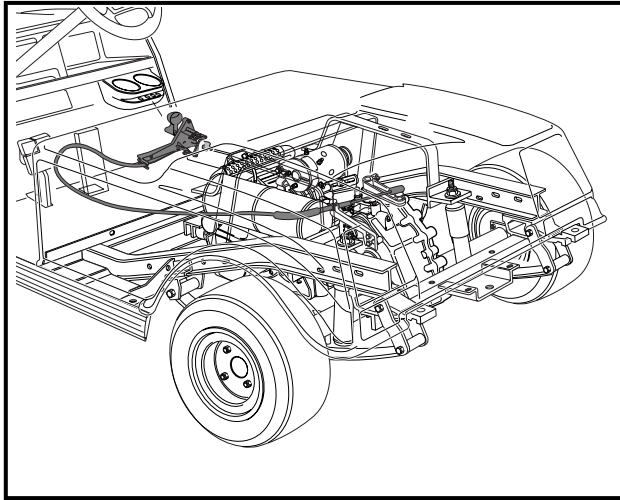

Figure 16-104 F&R Cable Routing
1. From the F&R shifter, route the cable toward the driver side of the vehicle so it lies against the side of the front body, turns 90° and passes to the driver side of air intake box, over the battery, beside the fender and then turns again to connect with the shifter arm on the transaxle (**Figure 16-104, Page 16-40**). Make sure cable does not touch muffler.